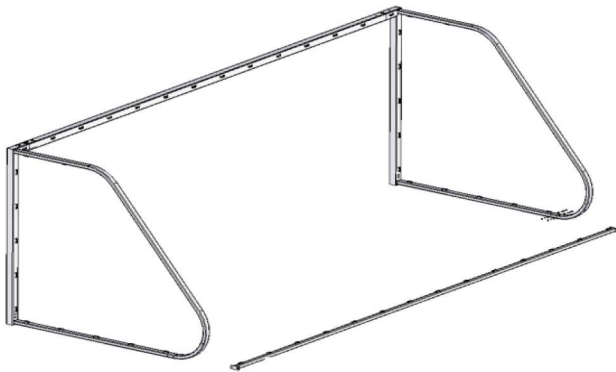

Figure 4
4. Before attaching the ground bar to the goal, carefully flip the goal into the proper position by lifting up on both ends of the crossbar. Place the ground bar between the two end frames (Fig. 4).